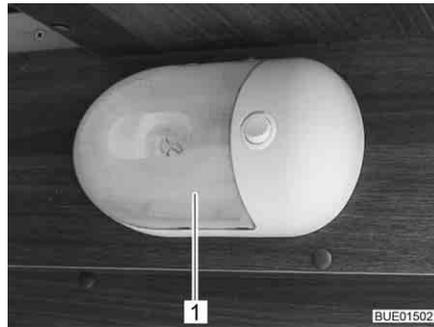

Fig. 213 Surface mounted light
- Carefully push the transparent cover (Fig. 213,1) together from both sides, pull it lightly from the switch and pull it off forwards.